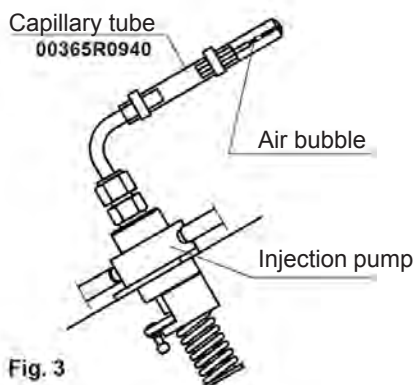

Fig. 3
8. Remove the injection tube and mount the capillary tube code **00365R0940** on the injection pump delivery fitting (fig. 3).
13. Shake the capillary tube until an air bubble forms inside it (fig. 3).